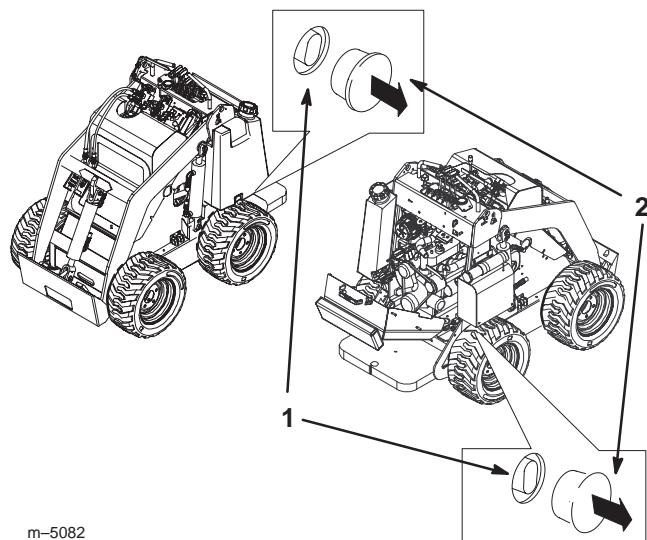

Figure 16
2. Remove the plug covering each tow valve (Fig. 16).
3. Loosen the jam nut on each tow valve (Fig. 16).